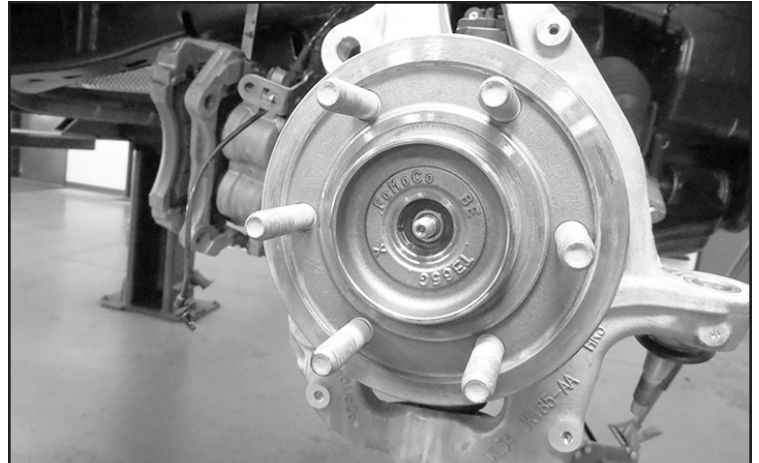

FIGURE 22 - STEP 26
26. Install the axle nut. Torque to 35 ft-lbs. Then install the axle nut cover. **SEE FIGURE 22**